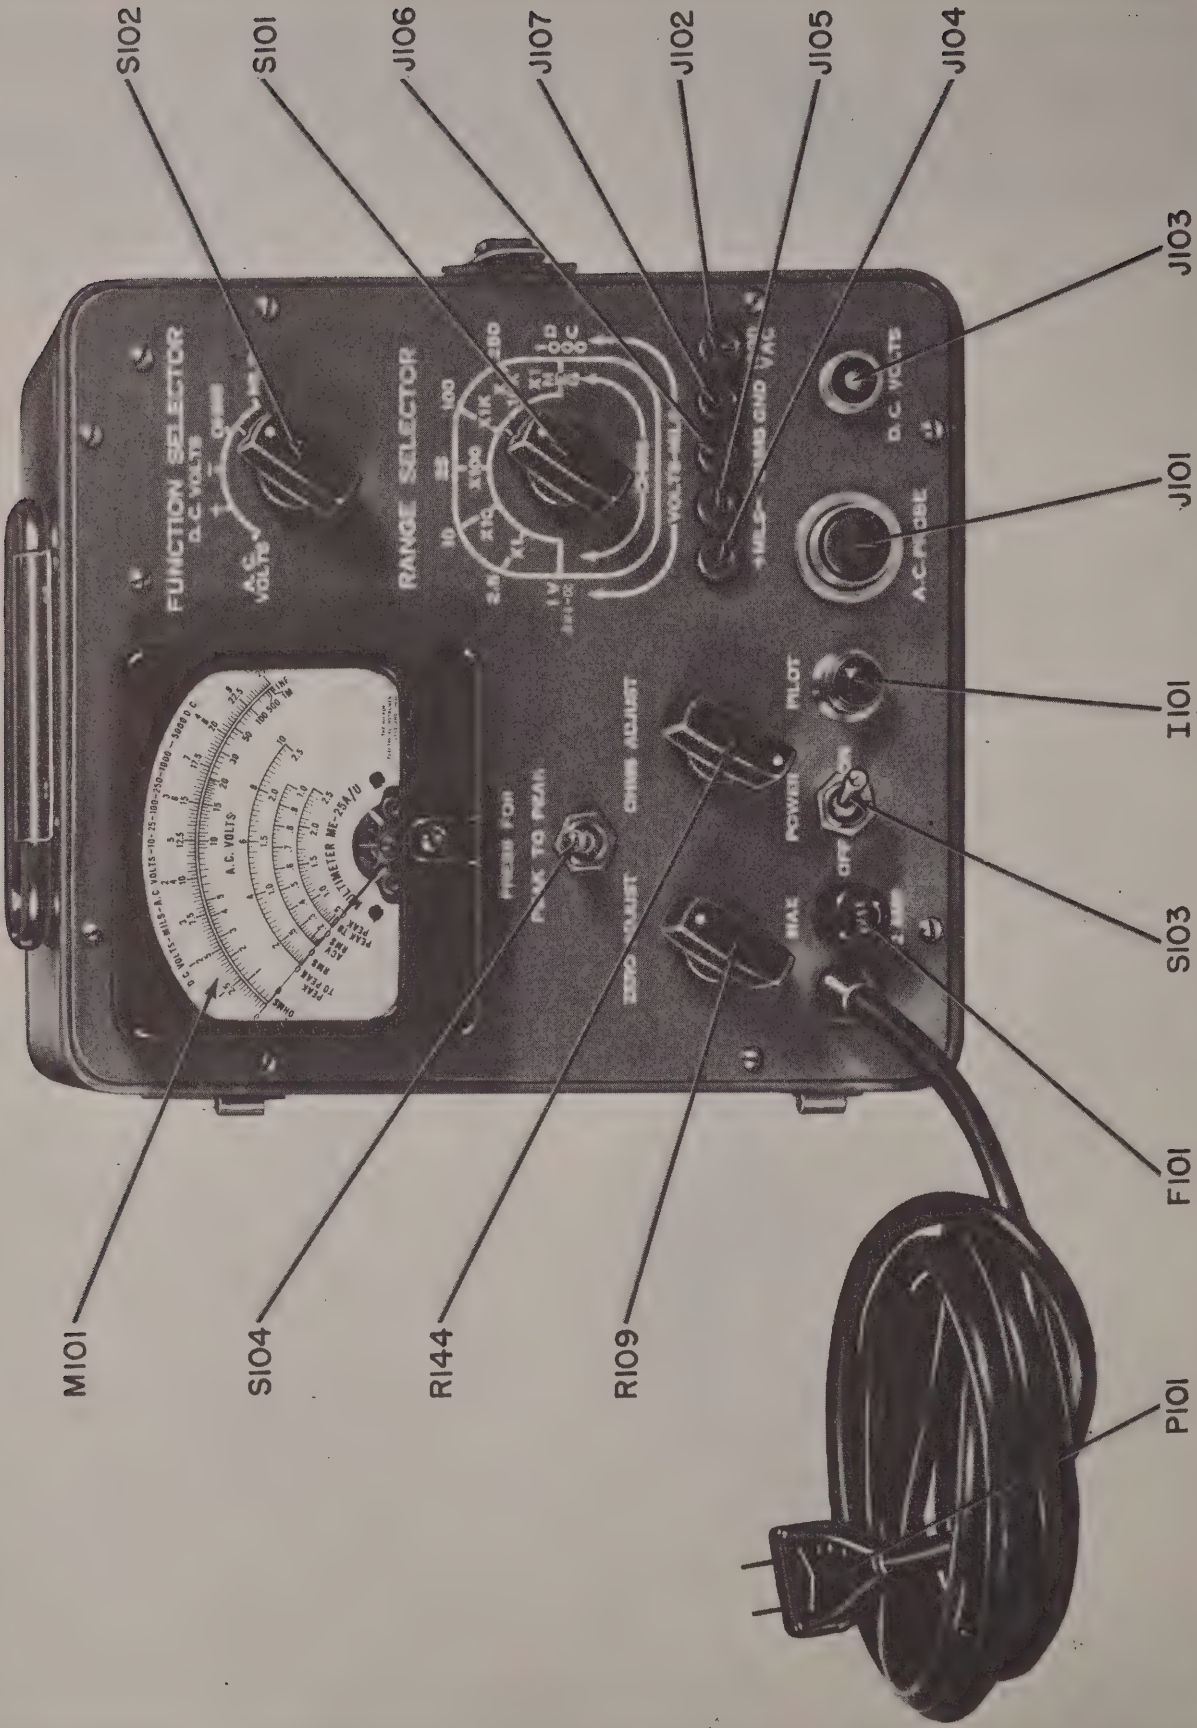

Figure 4-1. Panel Connectors and Controls
b. To insure accurate measurements of the unknown, make sure that the meter needle rests at zero on the scale when no power is applied. This adjustment is made mechanically by means of the ZERO ADJUST screw shown on the front of the meter in Figure 4-1. Adjust until the needle rests on the zero of the AC scale.